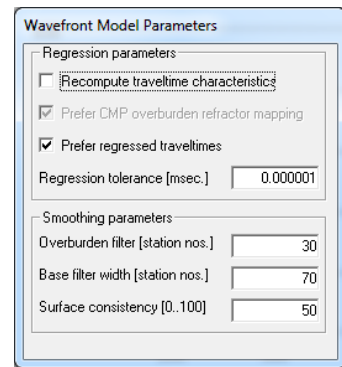

Fig. 12 : ALT+M for Wavefront params.
- ALT+M, edit *Wavefront parameters* (Fig. 12)